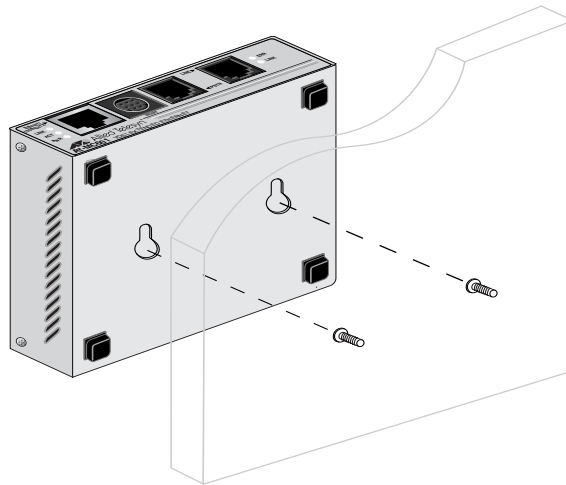

Figure 8 Positioning The Switch Onto The Wall Screws
4. Position the switch onto the wall screws so that the ports are facing the ceiling, as shown in Figure 8.